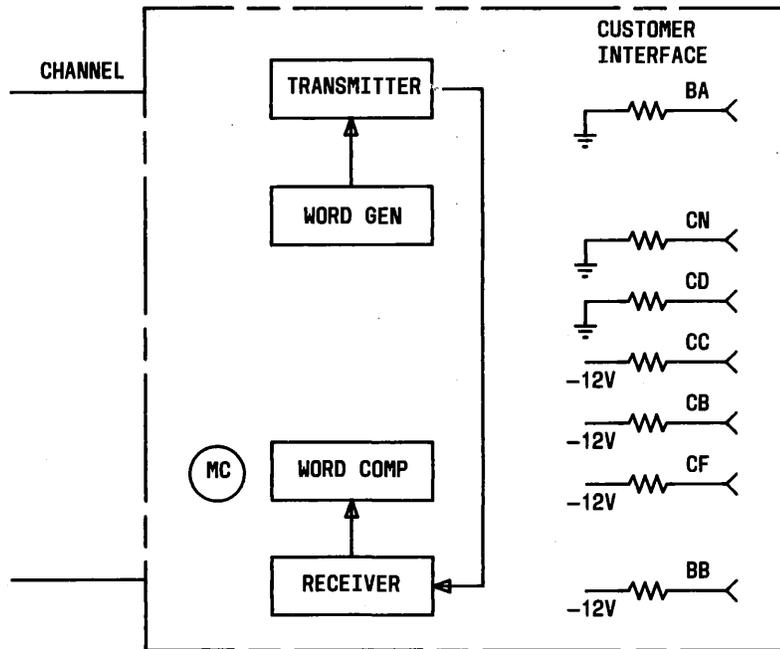

Fig. 5—Analog Loopback Self Test—Simplified Block Diagram
4.02 This test checks the data set transmitter and receiver (Fig. 5). The customer interface is not checked. Test data generated by the data set is looped back internally from the transmitter output to the receiver input. The received data is compared to the transmitted data. If the distortion threshold (20 percent) is not exceeded, the MC lamp goes off after a short interval.